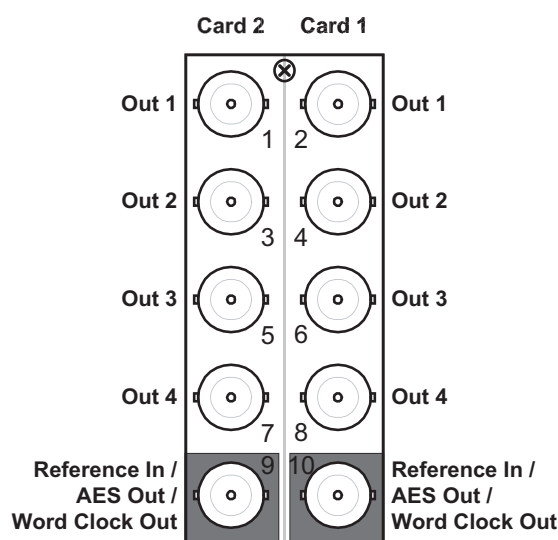

Figure 2.3 Cable Connections for the 8320AR-031 Rear Module
- 8320AR-031** Split Rear Module — Each rear module occupies two slots and accommodates two cards. This rear module provides four video outputs per card. Depending on your configuration, an AES or Word Clock output is available on the bottom BNC. (**Figure 2.3**)